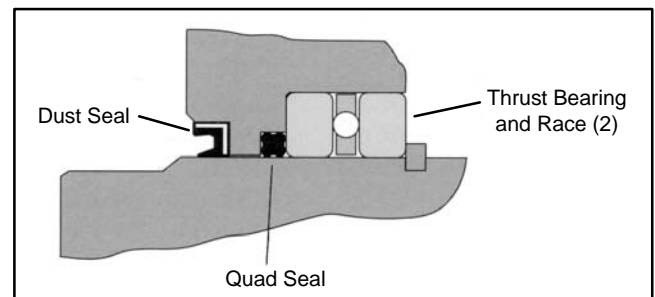

Figure 49
8. Put the thrust bearing and bearing races into the housing. The thrust bearing goes between the two bearing races (Fig. 49).